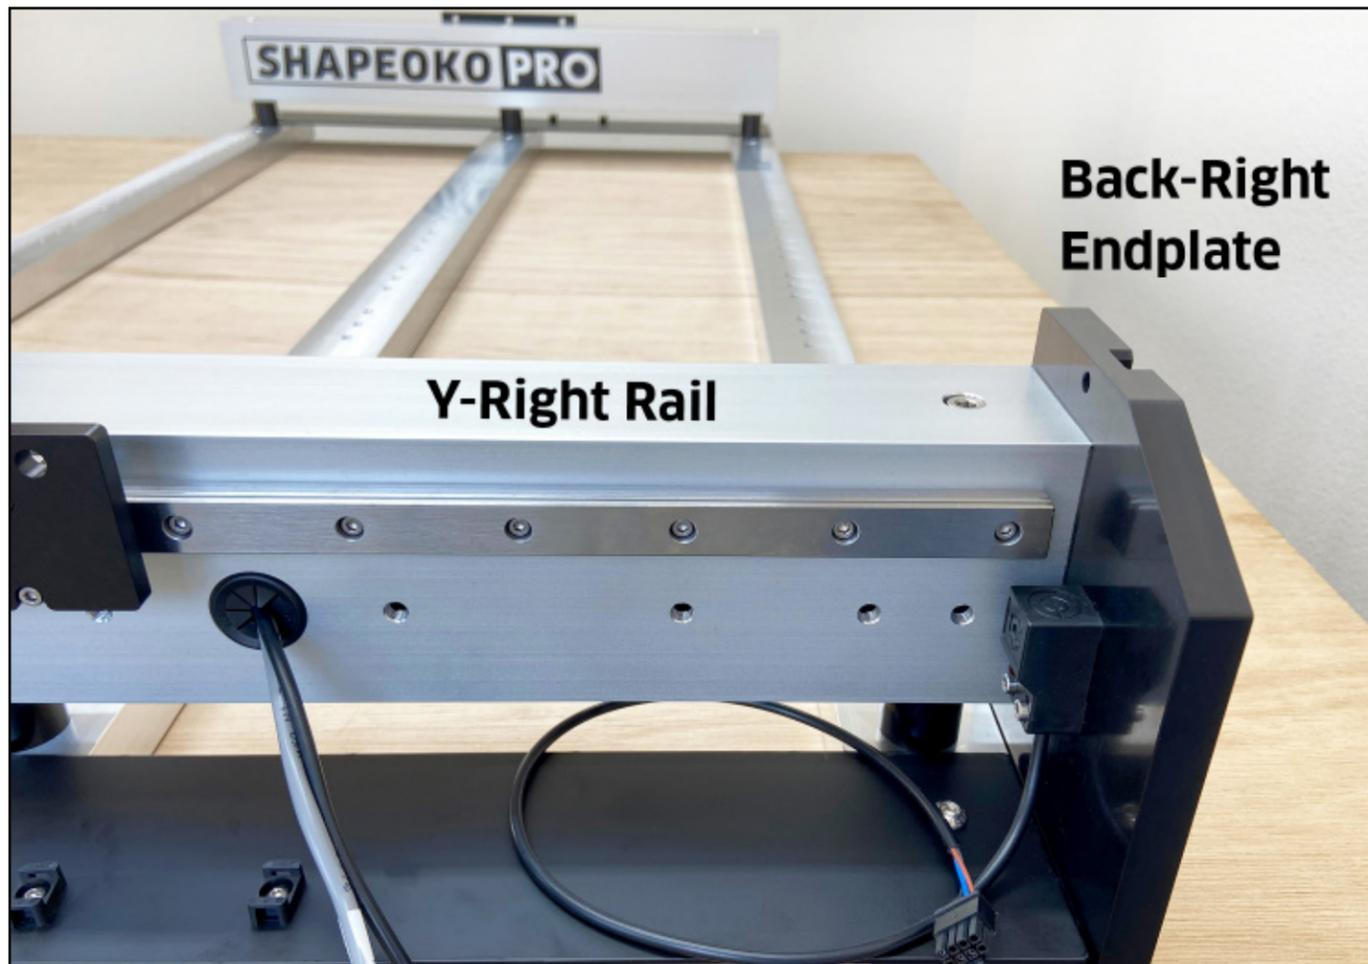

Figure 3-5
1. Position the back-right endplate at the back end of the Y-Right rail. **See Fig. 3-5.**
2. Use a 4mm hex key and four (4) M6×12mm low profile SHCS to secure the endplate to the rail. Fully tighten.